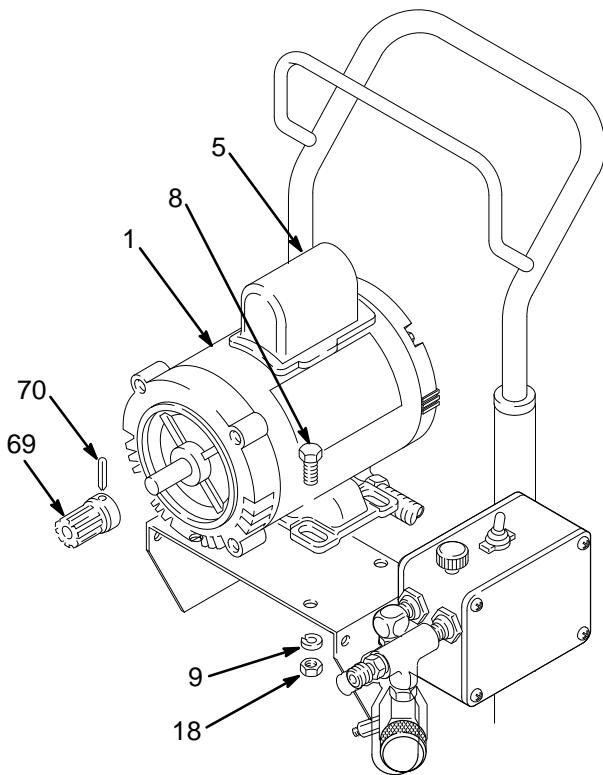

Fig. 13
3. Drive out the pin (70) and remove the gear (69). See Fig. 13.
6. Unscrew the nuts on both ends of the conduit (76) from the connector (75). Remove the screws (8), nuts (18) and lockwashers (9). See Fig. 13. Lift the motor (1) while carefully guiding the wires through the connector in the control box. Remove the conduit (76) from the wires.
7. Loosen the locknut and unscrew the connector (75) from the motor, being careful to avoid twisting the wires.